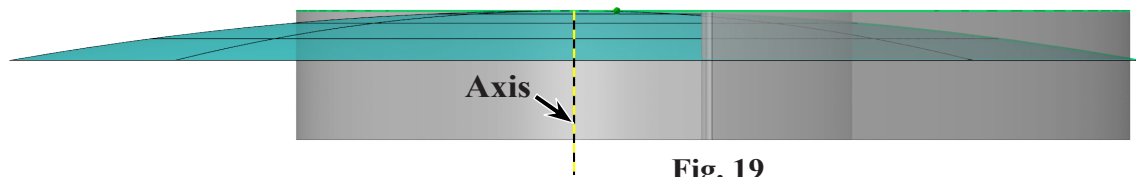

Fig. 19
Step 5. Click **vertical line** for axis of rotation, **Fig. 19**.